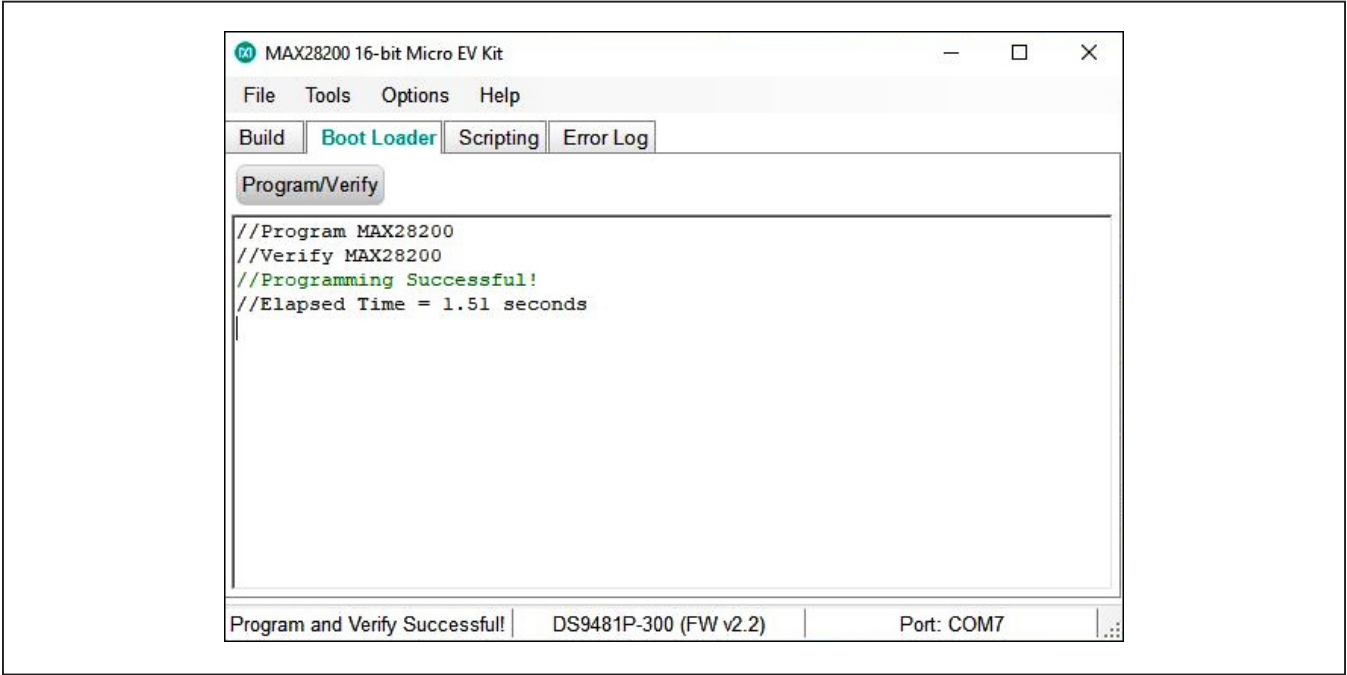

Figure 25. Device Successfully Programmed
8) If this operation is successful, **Programming Successful!** appears at the bottom of the log (Figure 25).